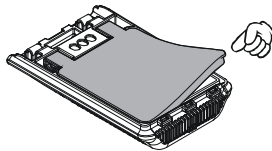

Figure 1
1. Lift up the lower right corner of the rubber cover, and then open the cover (Figure 1).